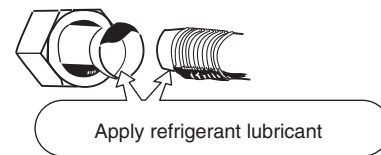

Fig. 5-4
- (1) Apply a sealing cap or water-proof tape to prevent dust or water from entering the tubes before they are used.
- (2) Be sure to apply refrigerant lubricant (ether oil) to the inside of the flare nut before making piping connections. This is effective for reducing gas leaks. (Fig. 5-4)